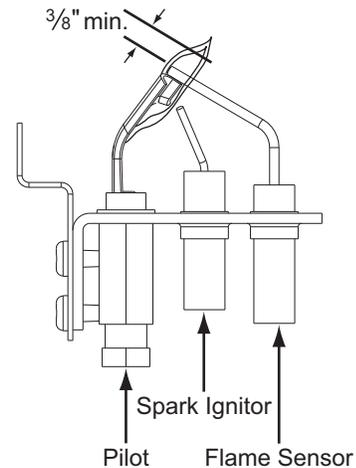

Figure 17: Proper Flame Adjustment
2. **Pressure Switch (PS)** - If the draft motor should fail, the pressure switch prevents the ignition controls and gas valves from being energized.
3. **Flame Sensor** - The flame sensor and controls are located per Proper Flame Adjustment Figure 17. If an ignition control fails to detect a signal from the flame sensor indicating the pilot flame is properly ignited, then the main gas valve will not open.
4. **Rollout Switch (RS)** - This switch is located in the burner vestibule. In the event of a sustained main burner flame rollout, it shuts off the ignition control and closes the main gas valve.
- NOTE:** The manual reset **Rollout Switch (RS)** must be reset before allowing furnace operation.
5. **Auxiliary Limit Switch (ALS)** - This control is located inside the heat exchanger compartment and is set to open at 160°F. It is a manual reset switch. If ALS trips, then the primary limit (LS) has not functioned correctly. Replace the primary limit LS.
3. The pilot flame should envelope 3/8" of the end of the flame sensor and not contain any yellow color, see Figure 17.